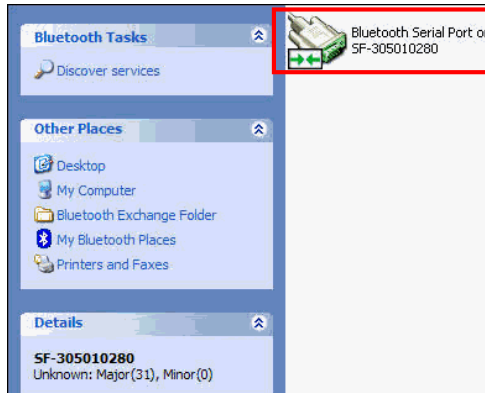

Figure 91: Bluetooth Serial Port Connection
7. Double-click the Bluetooth serial port icon. A graphic with green arrows indicates a connection is established between the Bluetooth Virtual COM port on the PC and the Bluetooth dongle (see Figure 91).
8. Double-click the Bluetooth serial port icon shown in Figure 91 to display the *Bluetooth Serial Port* dialog box (see Figure 92), which confirms the configured COM port.
10. To verify the assigned COM port, right-click the Bluetooth serial port icon (refer to Figure 91) and select *Properties* on the pop-up menu (the *Bluetooth Properties* dialog box opens).